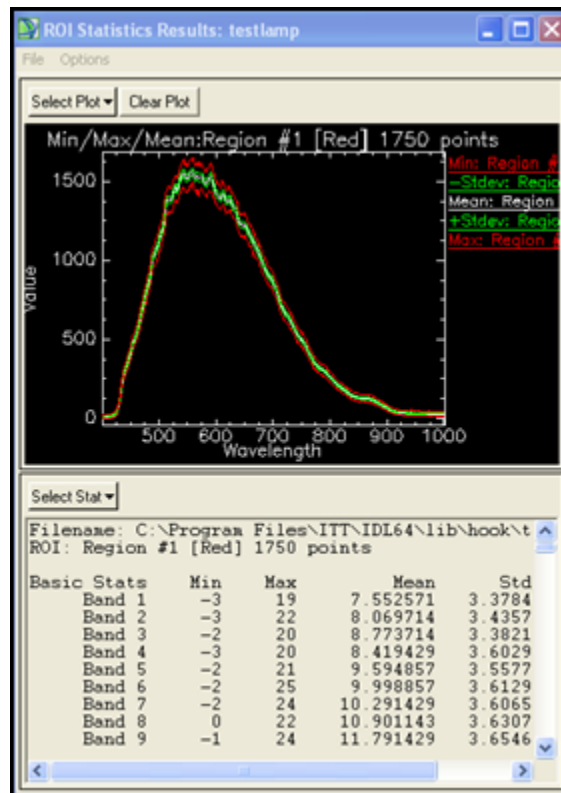

Figure 6.1b. Spectrum from lamp recording in ROI Statistics Results
- A plot of the lamp spectrum appears in the ROI Statistical Results window (Figure 6.1b). Right click and select Plot Key. The white curve labeled Mean: Region is the spectrum of the lamp that you will use: